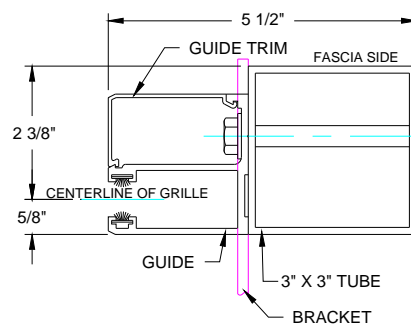

Fig 6.
10. Mount the guide extrusion, stoppers up, to the aluminum tube with the supplied fasteners. Refer to Fig. 6.